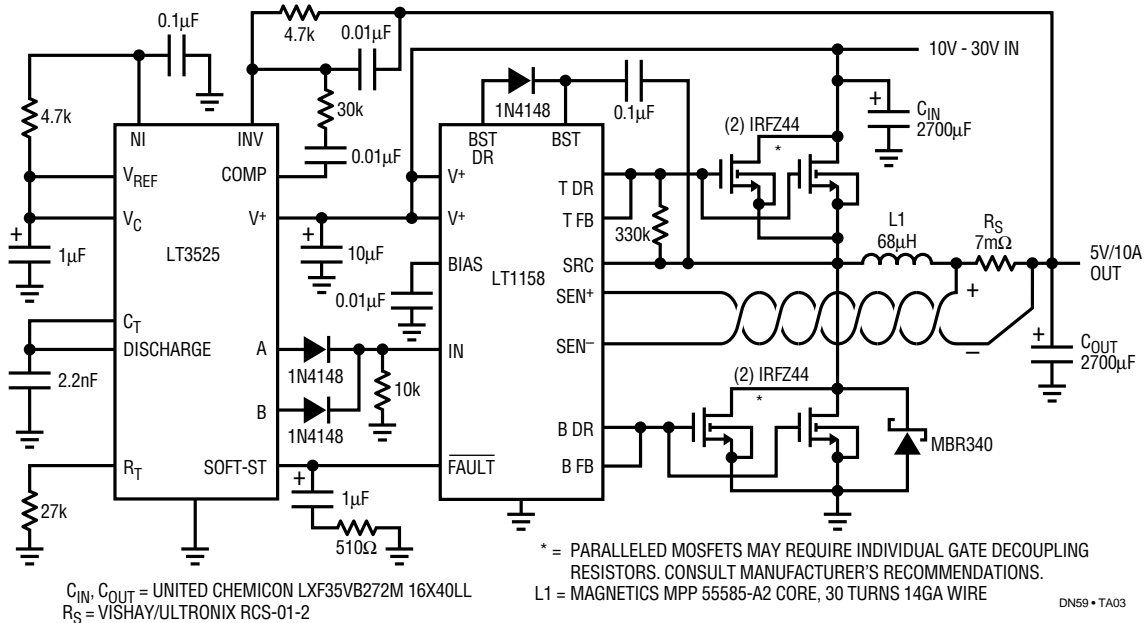

Figure 3. High Efficiency 50W DC-to-DC Converter
In the Figure 3 circuit an LT3525 provides a voltage mode PWM to drive the LT1158 input pin. The LT1158
drives (2) 28mΩ power MOSFETs for each switch, reducing individual device dissipation to 0.7W worst case. This eliminates the need for heatsinks for operation up to 10A at a temperature of 50°C ambient. The inductor and current shunt losses for the Figure 3 circuit are 1.2W and 0.7W respectively at 10A.
An additional loss potentially larger than those already mentioned results from the gate charge being delivered to multiple large MOSFETs at the switching frequency. This driver loss can only be controlled by running the oscillator at as low a frequency as practical — in the case of the Figure 3 circuit, 25kHz. A very low ESR (<20mΩ) output capacitor is used to limit output ripple to less than 50mVp-p with 2.5Ap-p ripple current.
The LT1158 also provides current limit for DC-to-DC converter applications. When the voltage across  $R_S$  exceeds 110mV, the LT1158 fault pin conducts, and assumes control of the PWM duty cycle. This provides true current mode short circuit protection with soft recovery. The Figure 3 regulator current limit is set at 15A which raises the dissipation in each bottom MOSFET to 1.7W during a short. Therefore 30°C/W heatsinking must be added for the bottom side MOSFETs if continuous short circuit operation is required. Care should also be taken when routing the sense+ and sense- leads to prevent coupling from the inductor.